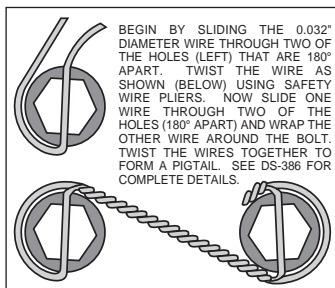

Figure 3. Safety Wire Diagram
- Orient the rotor (7) and the hat (8) as shown in Figure 1 and Photo 2. Attach rotor to hat using bolts (10) and washers (9). Using an alternating sequence, apply red *Loctite*[®] 271 to the threads, and torque to 155 **in-lbs**. For an added measure of security, the bolts may be safety wired using standard 0.032 inch diameter stainless steel safety wire as shown in Figure 3. Please refer to Wilwood's data sheet DS-386 (available at www.wilwood.com/Pdf/DataSheets/ds386.pdf) for complete safety wire installation instructions.